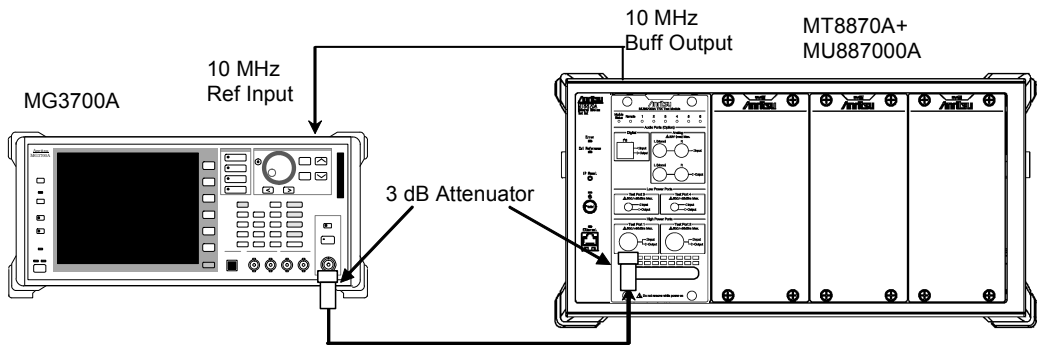

Figure 6.3.10-1 Setup for Measuring Output Spectrum measurement
1. Setup the instruments as shown in Figure 6.3.10-1.